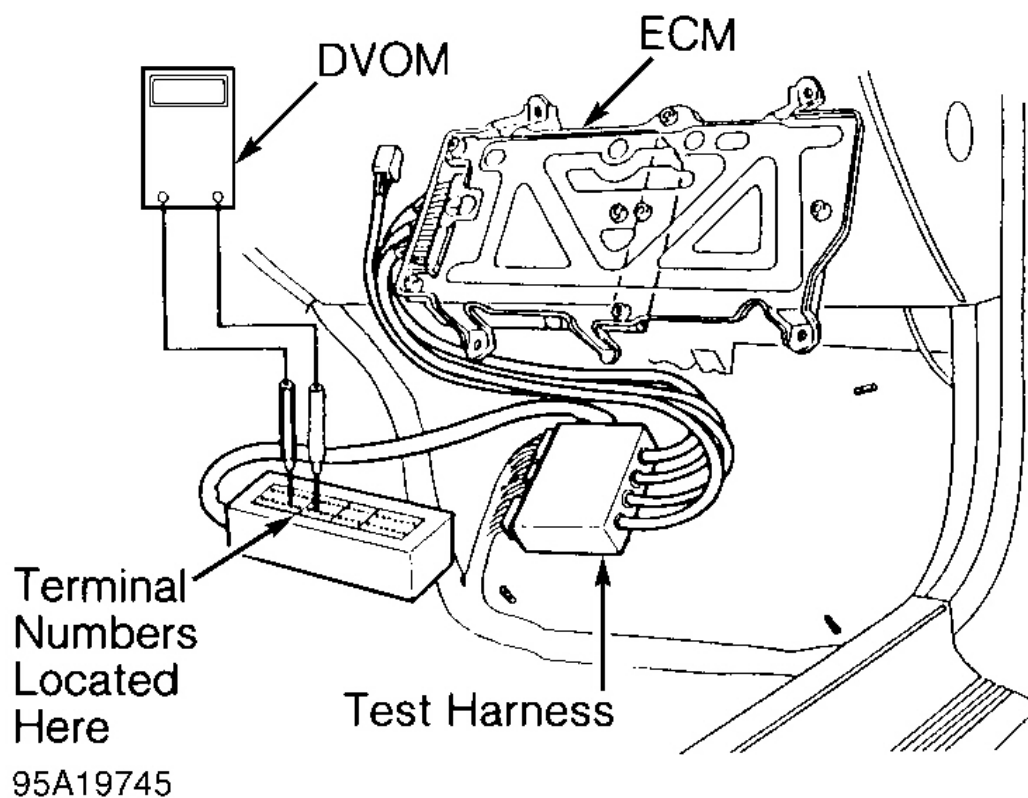

Fig. 5: Installing Test Harness At ECM (1993)
3. Remove door sill molding on passenger's side. On 1993 models, remove small cover on passenger's side kick panel. On all models, pull carpet back for access to Engine Control Module (ECM), located on passenger's side, below carpet. See **Fig. 5** and **Fig. 6**.
5. Install Digital Volt-Ohmmeter (DVOM) on test harness with positive lead at terminal D11 and negative lead at terminal D22 for monitoring of throttle position sensor voltage. Terminal numbers are on top of test harness. See Fig. 5 and Fig. 6 . Ensure DVOM is set for measuring voltage.